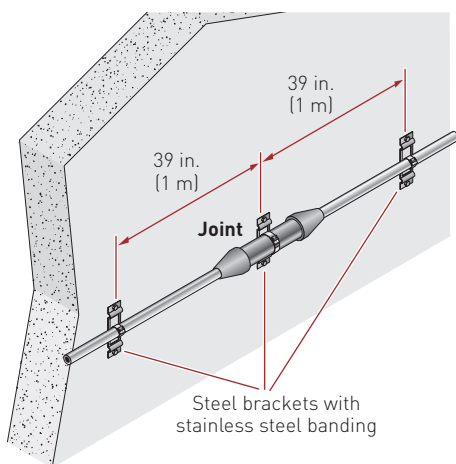

Figure 7: Splice - Factory joint
4. **Splices** (Figure 7) – The MI cable(s) may be provided with a factory-installed joint on cables with diameters of 0.402 in. (10.22 mm) and larger. Refer to the Manufacturer's Installation Instructions for additional details.